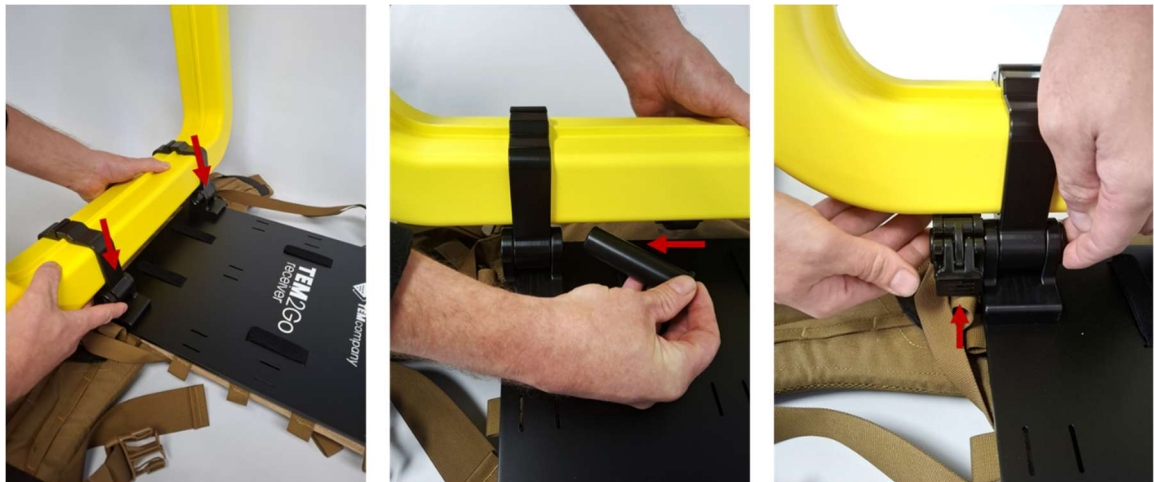

Figure 12: How to secure the Rx coil to the receiver backpack
4. Align the hinges of the Rx coil with those on the backpack. Insert the bolt through the hinges and secure it with the clips on both sides (Figure 12).